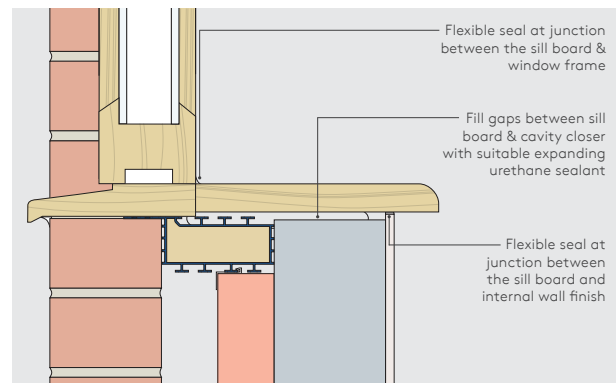

Figure 25: Oversailing Window Board
- Direct fixing of window boards to Kingspan Thermabate® alone will not suffice (Figure 25). Where an embedded tiled inner sill or threshold is required, the tees on the Kingspan Thermabate® casing form a key for cement bedding.